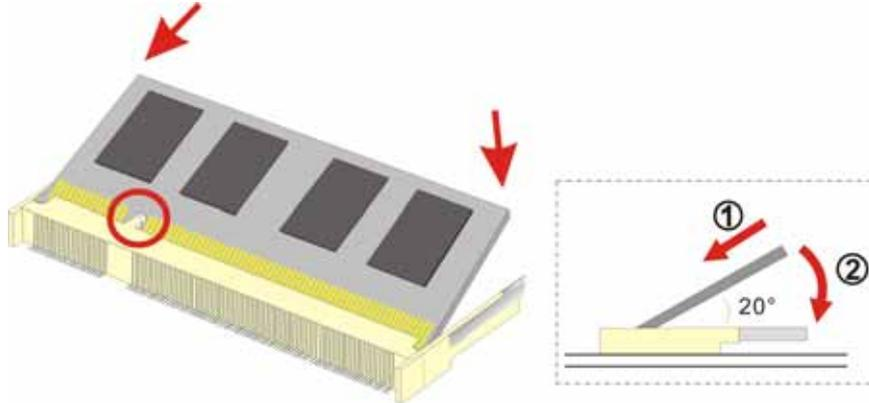

Figure 3-10: SO-DIMM Module Installation
Step 3: Push the SO-DIMM chip into the socket at an angle. (See **Figure 3-10**)
Step 4: Gently pull the arms of the SO-DIMM socket out and push the rear of the SO-DIMM module down. (See **Figure 3-10**)